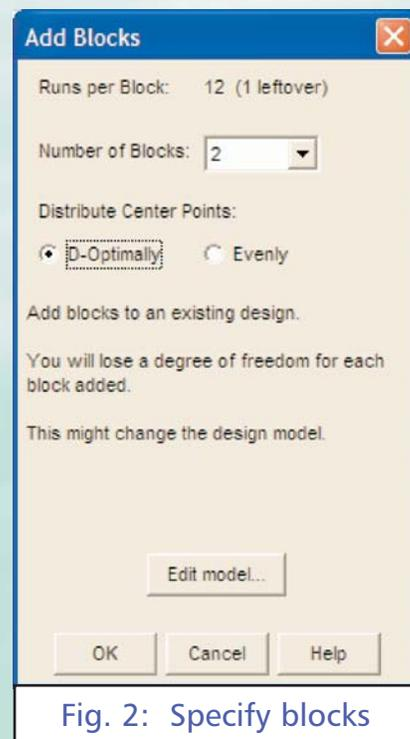

Fig. 2: Specify blocks
* When adding blocks, choose to distribute the pre-existing center points evenly across the blocks or D-optimally, which will generally leave them in one block (See Fig. 2)